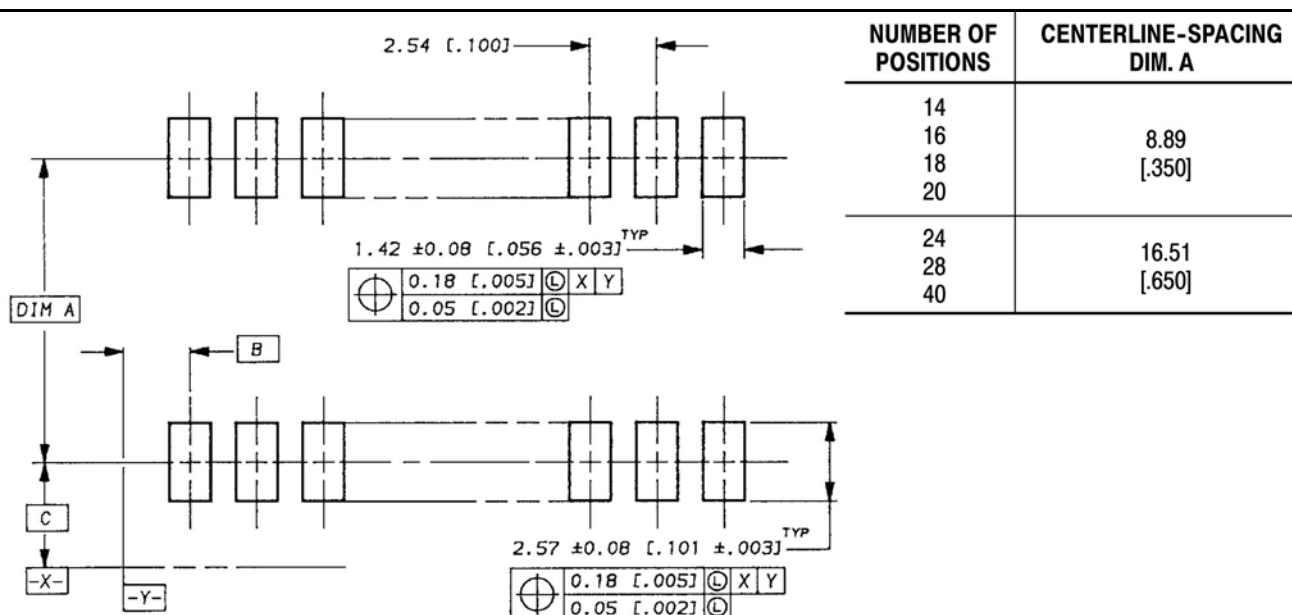

Figure 2
3. If a solder mask is used, it must allow full clearance around the pads as defined in Figure 2.
Recommended pattern and dimensions, as well as tolerances, are shown in Figure 2.
If the aperture dimensions on the stencil are the same as the nominal pad dimensions shown in Figure 2, stencil thickness can be calculated with the following relation: